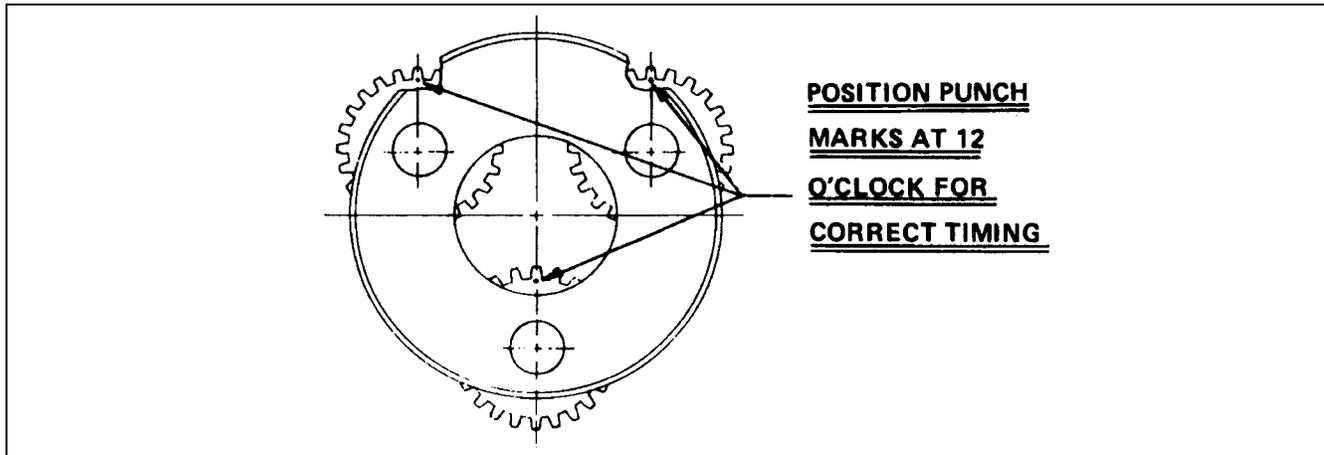

Figure 2-38. Torque Hub Carrier Timing.
19. Place carrier assembly 15 on a flat surface with large ends of cluster gears 20 face up and positioned as shown in Figure 2-38. Find punch marked tooth on each large gear and locate at 12 o'clock (straight up) from each planet pin. Marked tooth will be located just under carrier on upper two gears.